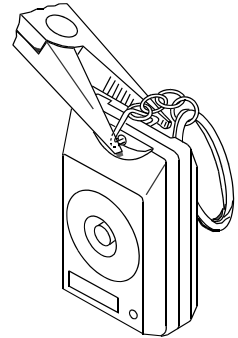

Figure 4. Key-ring Installation
E. Slip the key-ring triangle through the last link of the keying chain and install the triangle into the hole on the top of the MCT-231 (Fig. 4).